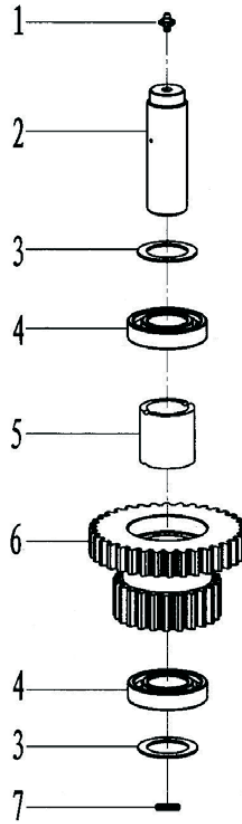

Fig.9
7.9 Assembly of duplicate gear (Fig.9,Table9)